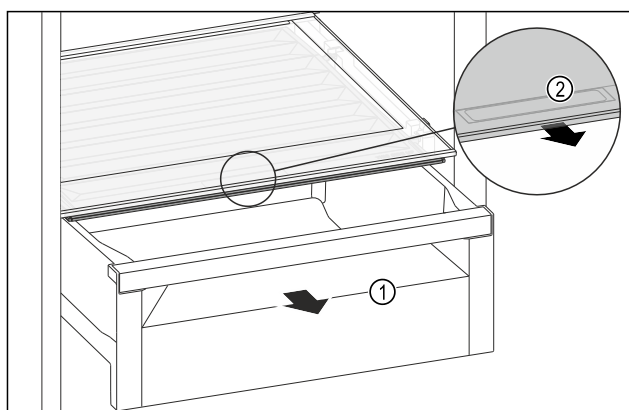

Fig. 95
- Pull out the drawer Fig. 95 (1).
- Grip the handle recess Fig. 95 (2) on the lid while pulling the lid forward at the same time.